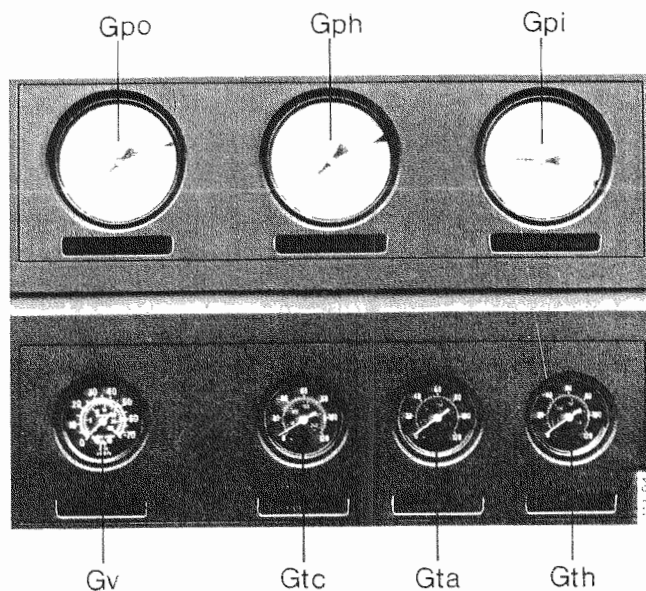

Fig. 12. Instrument panel gauges
- d. the lubricating oil pressure (Gpo - Fig. 12).
- e. the intercooler pressure (Gpi - Fig. 12).
As soon as the pre-set working pressure is reached and registers on gauge (Gph - Fig. 12), the air pressure switch will unload the compressor. Hourmeter LOADING TIME P2 then stops counting.
two cocks (Vfc and Vfi - Fig. 9) installed in the main circuit. The cooling water outlet temperature is indicated on gauge (Gtc - Fig. 12), and on ZR6 units also on thermometers (Twc and Twi - Fig. 9). Turning the hand wheel of the cock(s) clockwise will increase the water outlet temperature
- 4 Under load condition, adjust the cooling water flow through the aftercooler by means of cock (Vfa - Fig. 9) to obtain the most suitable water and compressed air outlet temperatures (Gta and Gth - Fig. 12).
1 Scheduled service based on a set number of operating hours is not required. The cartridge(s) must be serviced as soon as the pointer of the service indicator (Gv - Fig. 12) reaches the red line or field, i.e. corresponds to 45 mbar (18" w.c.) during the loading periods of the compressor.